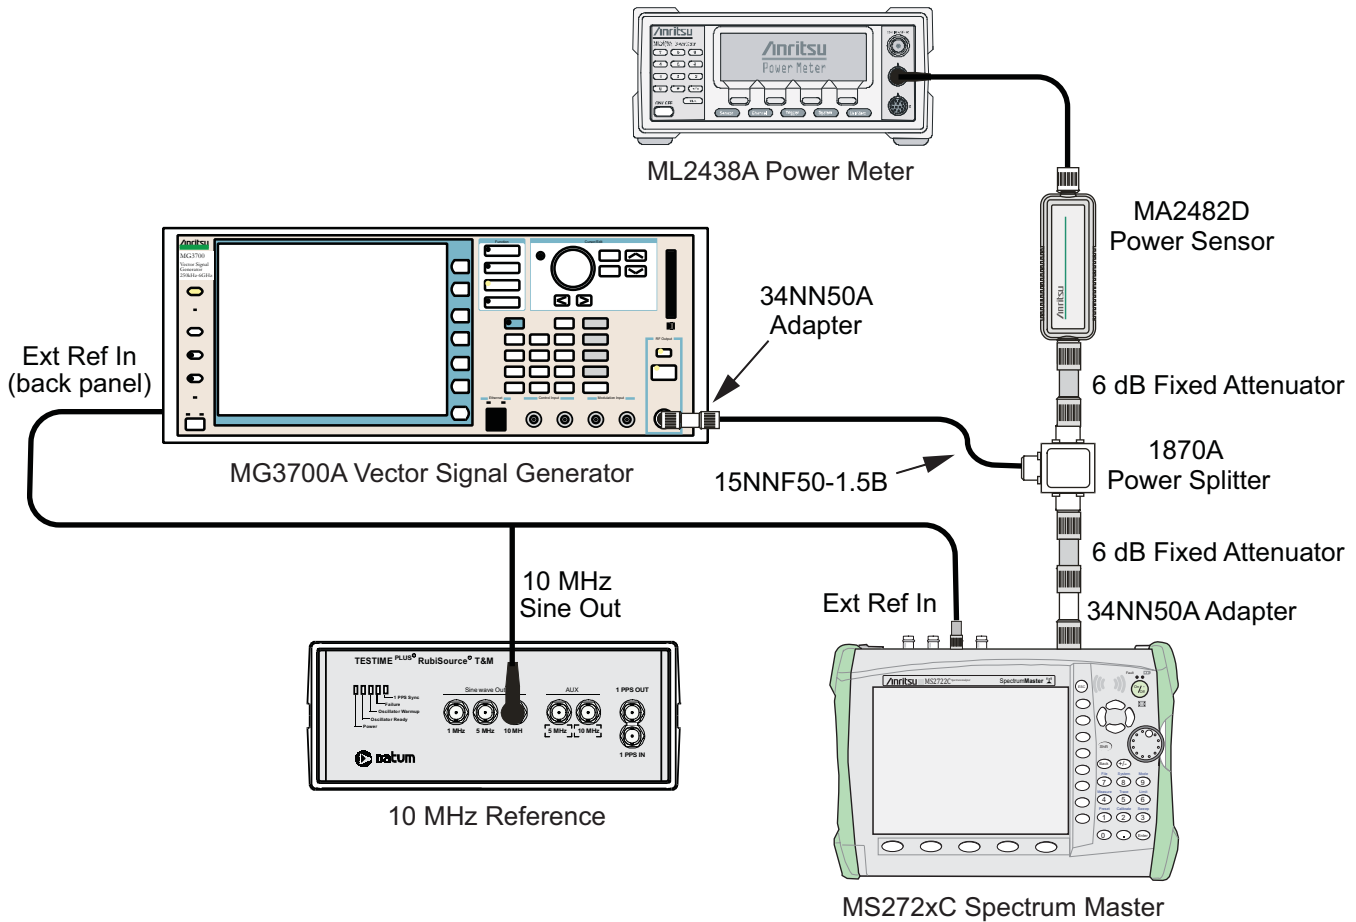

Figure 3-13. TD-LTE Signal Analyzer Option Verification
4. Connect the Power Sensor, 1870A splitter, 6 dB attenuators (quantity 2), as shown in Figure 3-13.